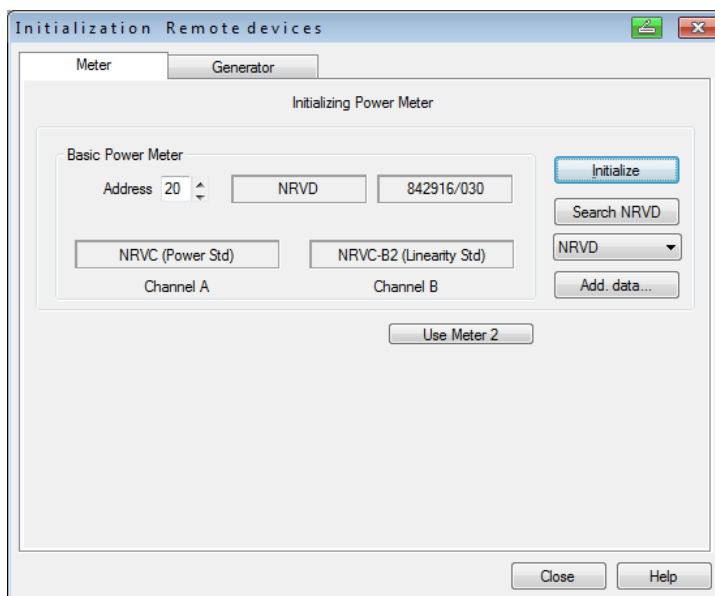

Fig. 6-29 Dialog boxes for initializing the R&S®NRVD and the two standards
- In the case of an initial installation or after a recalibration, the power standard and the linearity standard are to be connected to the two measurement channels of this R&S®NRVD. The R&S®NRVD should then identify the two sensors and make the necessary entries in the Channel A and Channel B boxes (Fig. 6-29)